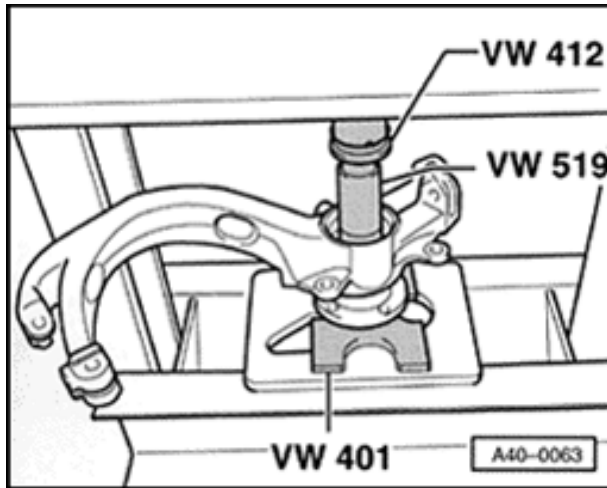

Fig. 9 Pressing wheel hub into wheel bearing with 75 mm diameter
- ◆ Pressing in 75 mm dia. ⇒ Fig. 9